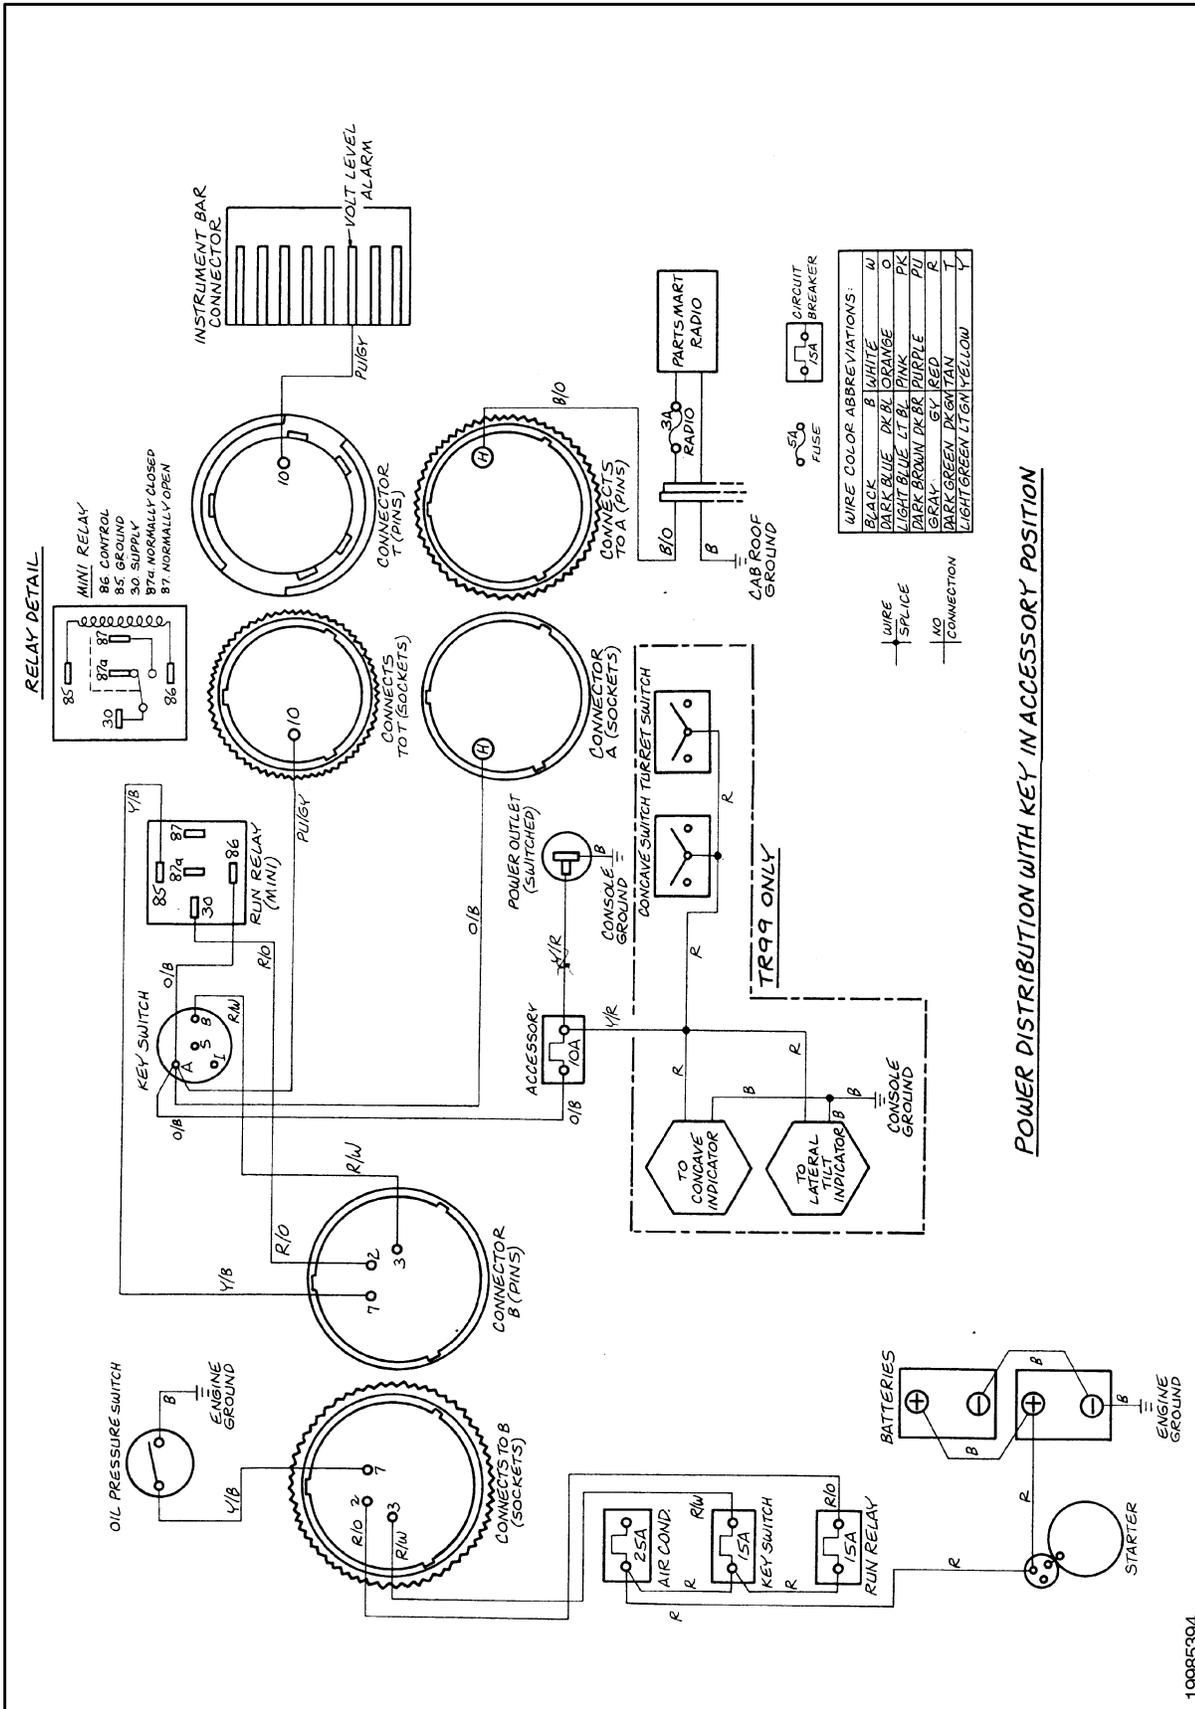

Figure 1-10
When the key switch is in the accessory position, (1) the following circuits and components are powered or “hot”. These components are in addition to those shown in Figure 1-10.